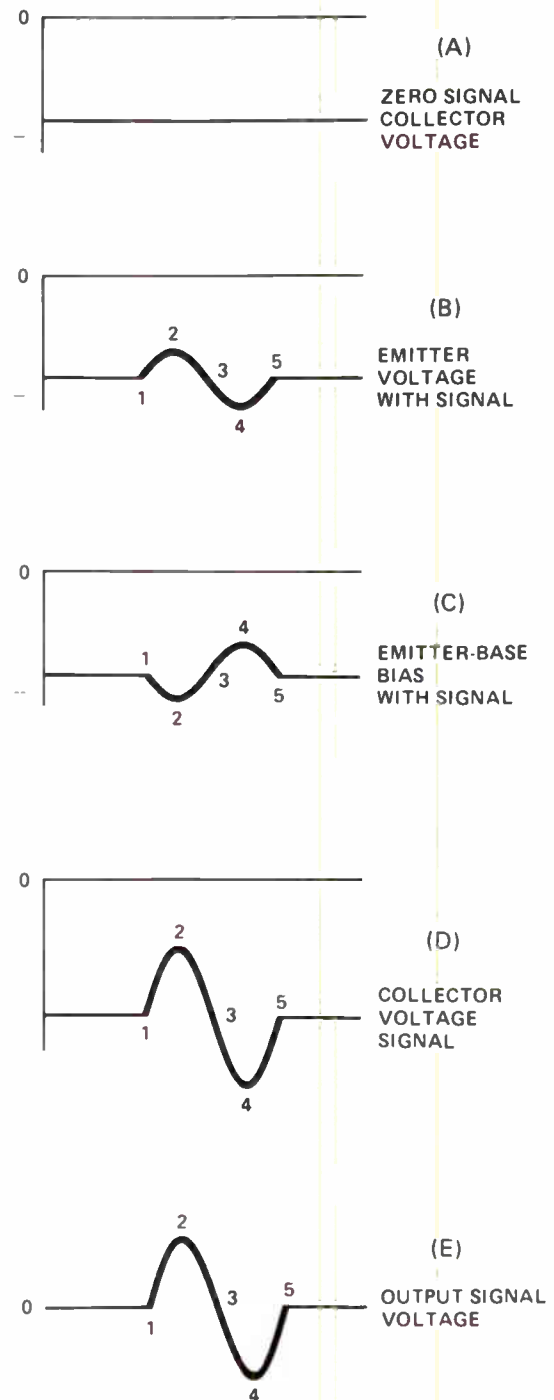
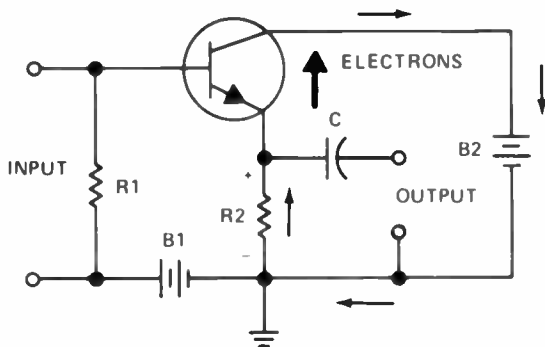
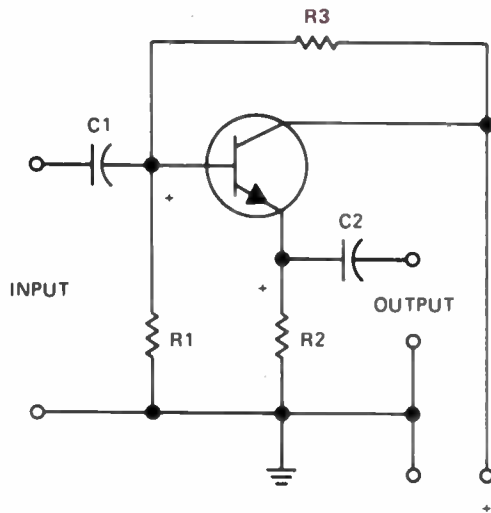

Figure 14. Waveforms for circuit shown in Fig.13.
Figure 15. Basic common-collector circuit using an npn transistor.
Figure 16. Common-collector amplifier using an npn transistor and a single voltage source.
The waveforms in Fig.14 show what happens when a signal is applied to the input. With no signal, the collector voltage is negative and constant, as shown in Fig.14(A), as are the emitter and base voltages. The base is more negative than the emitter; that is, if the emitter voltage is -1 V, the base voltage might be -2 volts.
Figure 14(B) shows what happens to the emitter voltage when a signal is applied. The emitter voltage is at its zero signal level at point 1. During the first half-cycle, as the input signal swings positive from point 1 to point 2 and back to point 3, the input signal drives the emitter voltage in a positive direction. The emitter voltage might drop from -1 volt to -0.5 volt. Now the forward bias across the emitter-base junction is -1.5 V instead of being 1 V as it was with zero signal input. The forward bias across emitter-base junction increases as shown in Fig.14(C). The increase in forward bias causes the number of holes flowing through the transistor to increase. When this happens, additional electrons flow from the negative terminal of the voltage source, through R2, to the collector. The voltage drop across R2 increases so that the voltage between the collector of the transistor and ground decreases as shown between points 1, 2, and 3 of Fig.14(D).
When the input signal swings in a negative direction, as it does between points 3, 4, and 5 of Fig.15(B), the forward bias across the emitter-base junction decreases as shown in Fig.14(C). This causes the number of holes flowing through the transistor to decrease, so the number of electrons flowing through R2 to fill these holes also decreases. The voltage drop across R2 decreases so the potential between the collector and ground increases as shown in Fig.14(D). The output signal with the dc collector voltage removed is shown in Fig.14(E).
Figure 15 shows the basic common-collector circuit using an npn transistor. Battery B1 has a low impedance as far as the signal is concerned,
The disadvantages of the circuit shown in Fig. 15 are that it requires two batteries and the input is not isolated from the base of the transistor. We've added the capacitor C1 in Fig. 16, on the next page, to isolate the input from the base
The common-collector circuit has the highest input impedance of the three circuits. Refer to Fig.15. Input impedance is the ratio of the input voltage over the input current. The voltage applied at the input causes a flow of signal current from the emitter, through the transistor, and to the collector. Some electrons traveling from the emitter to the collector exit through the base and R_1 . But, since the output signal voltage is subtracted from the input signal voltage, as far as the signal voltage applied between the base and emitter is concerned, the actual signal current in the transistor is quite small. Therefore, the total input signal current is small, and this means the input impedance is high.